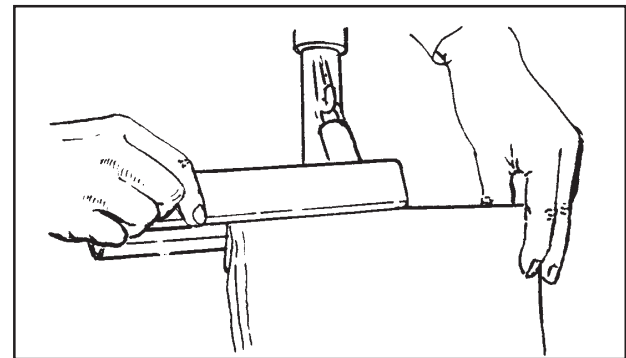

Figure 6
3. Slide the clamp over the folded edge of the dust bag. Make sure the paper bag is included (see figure 6.)